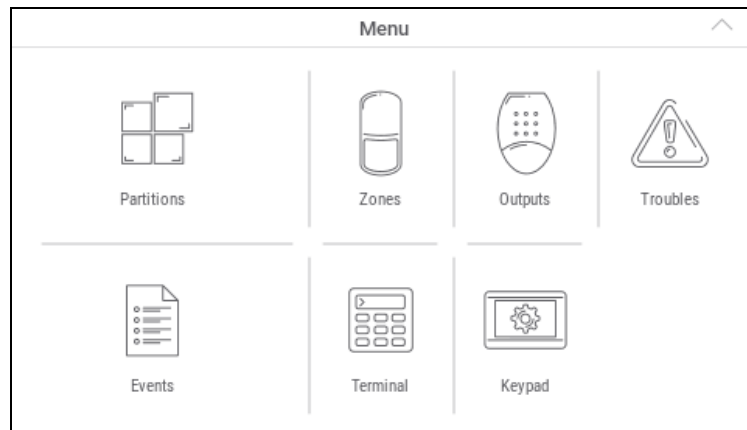

Fig. 14. User menu home screen.
- Enter the service code (by default: 12345) and tap . The user menu home screen will be displayed (Fig. 14).